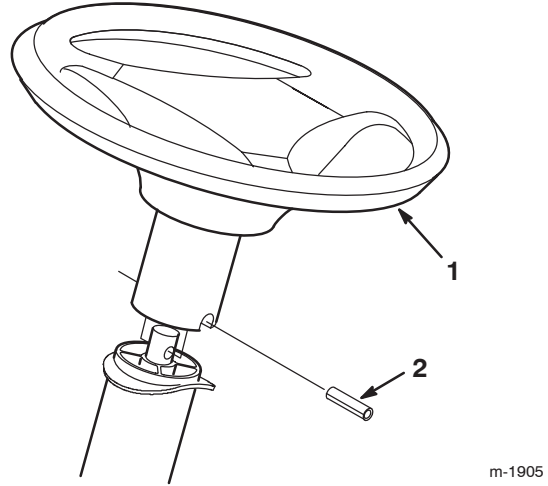

Figure 2
2. Slide the steering wheel over the steering shaft and line up the hole in the steering wheel with the hole in the shaft (Fig. 2).
5. Using a hammer, drive the spirol pin in until it is flush with the outside of the steering wheel (Fig. 2).